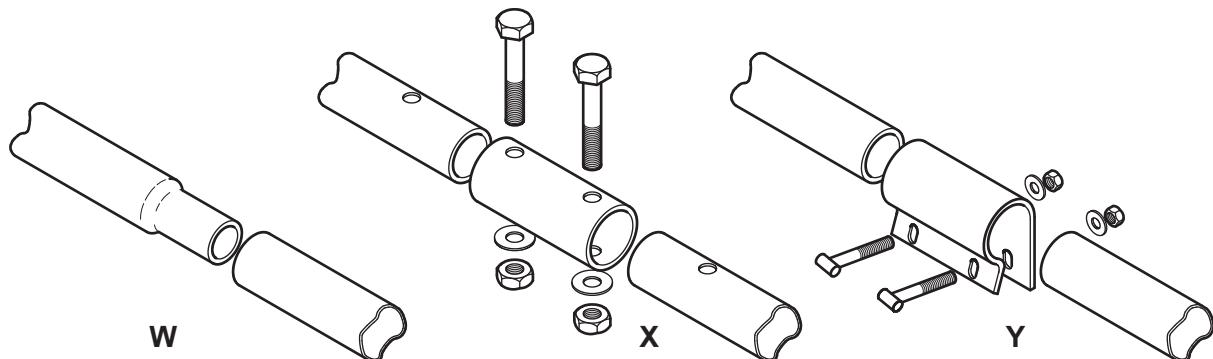

Fig. 10.2
- (b) Fig. 10.2 shows three methods of extending the length of a piece of steel tube.